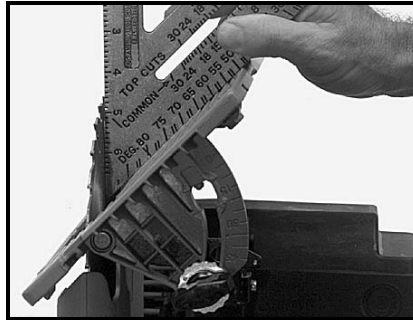

Fig. 8
4. Turn saw upside down, retract telescoping guard and check 45° angle as shown in Fig. 8.